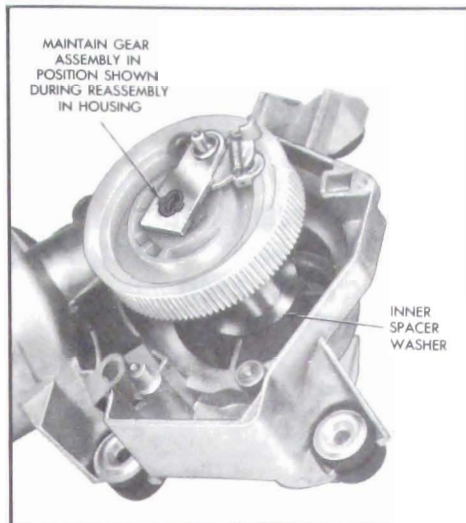

Figure 10-125—Removing or Installing Gear Assembly
2. Slide gear assembly out of housing. See Figure 10-125.
6. Assemble inner spacer washer over gear shaft and assemble gear mechanism in housing so that it is positioned with respect to the housing in the approximate location shown in Figure 10-125.
8. Operate wiper to "park" or "off" position and install crank arm in the approximate position shown in Figure 10-125.
Any time that the motor is turning, a drive pin on the motor drive plate assembly turns a four lobe shaped nylon cam follower in the pump assembly. The cam follower contacts a roller on the ratchet pawl lever. See Figure 10-125 A torsion spring on the ratchet pawl lever pivot shaft makes the